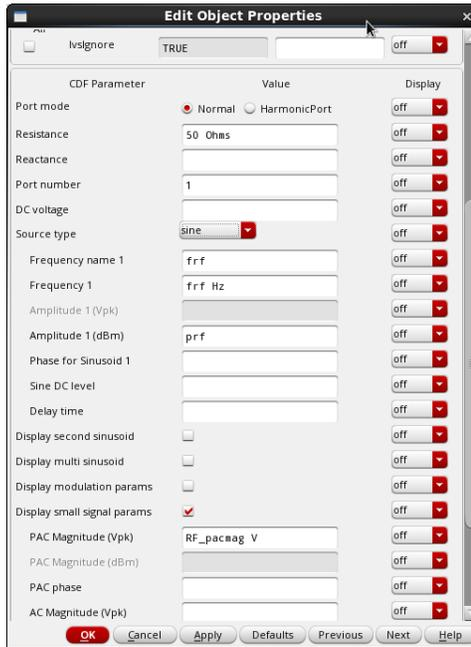

Fig. 5. RF port setup
- Configure the RF, LO, and IF ports as shown in Fig. 5 to 7 respectively.